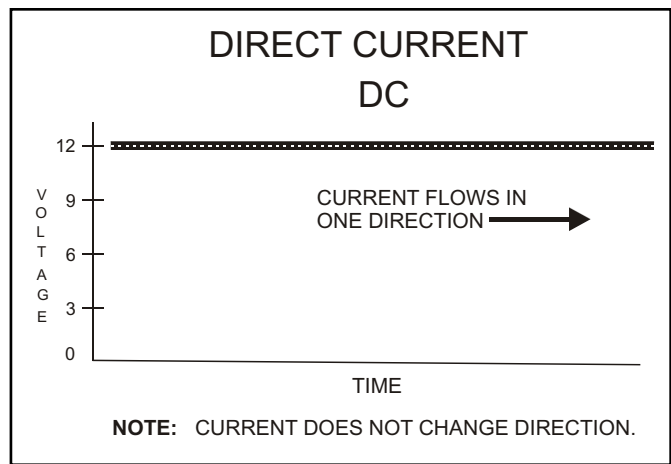

Figure 1 — Direct Current (DC)
Direct Current (DC) is an electrical charge that flows in one direction through a circuit (figure 1). It is commonly used in consumer goods such as radios and automobiles. Dry cells and batteries are some other common sources of direct current.